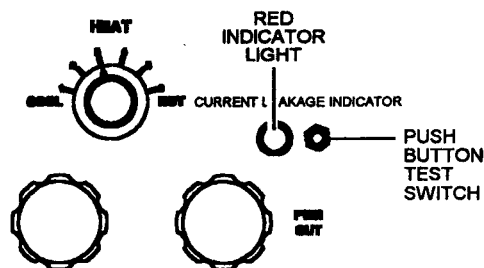

FIGURE 6. CURRENT LEAKAGE INDICATOR
- c. Activate the push button test switch. The red light should illuminate (see Figure 6).